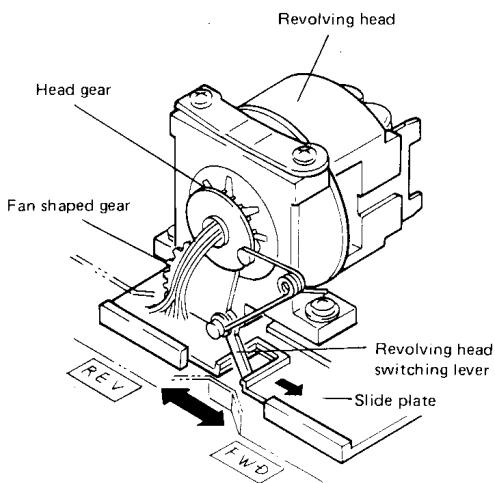

Fig. 10-6 Revolving head switching
- (1) When the slide plate is slid across to the right as indicated in Fig.10-6, the end of the revolving head switching lever is caught by a slit in the switching slide and is shifted across to the right as well. The fan-shape gear is consequently rotated counter clockwise, and the revolving head coupled to this gear is rotated by 180° to set the head in the FWD recording/playback position.
- (2) The slide plate is shifted across to the left to set the head in the reverse recording/playback position.
- (3) A spring is used to set the head into position by snap action and thereby ensure that head is always set in the correct position.